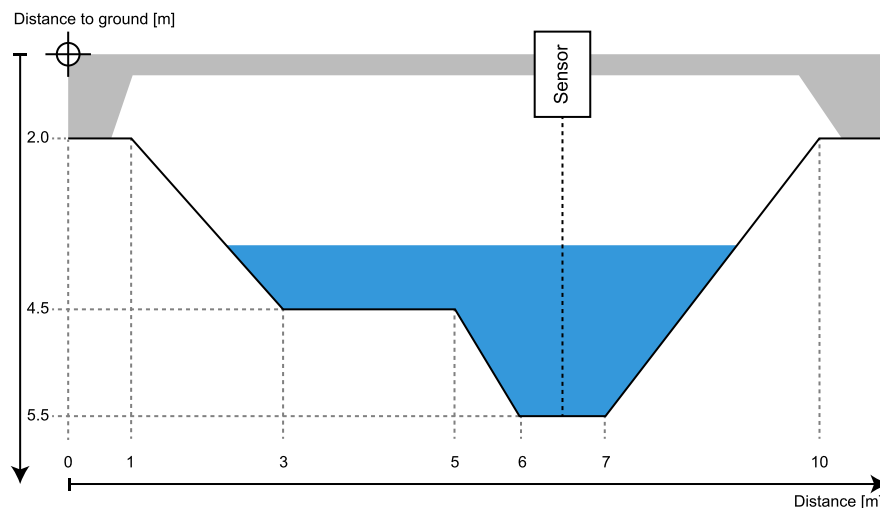

Figure 14 Cross-Sectional profile with heights relative to top
- height relative to top with positive values downwards, see Figure 14